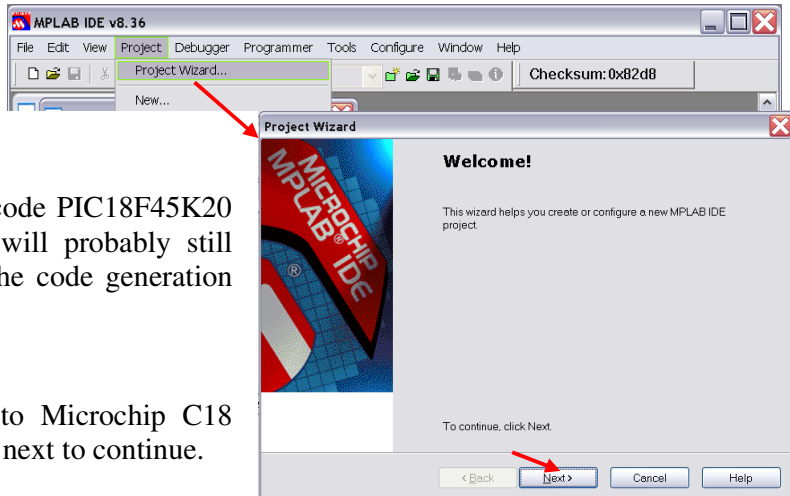

Figure 2: Starting Project Wizard
3. From the "Project..." menu, select "Project Wizard". (See Figure 2)